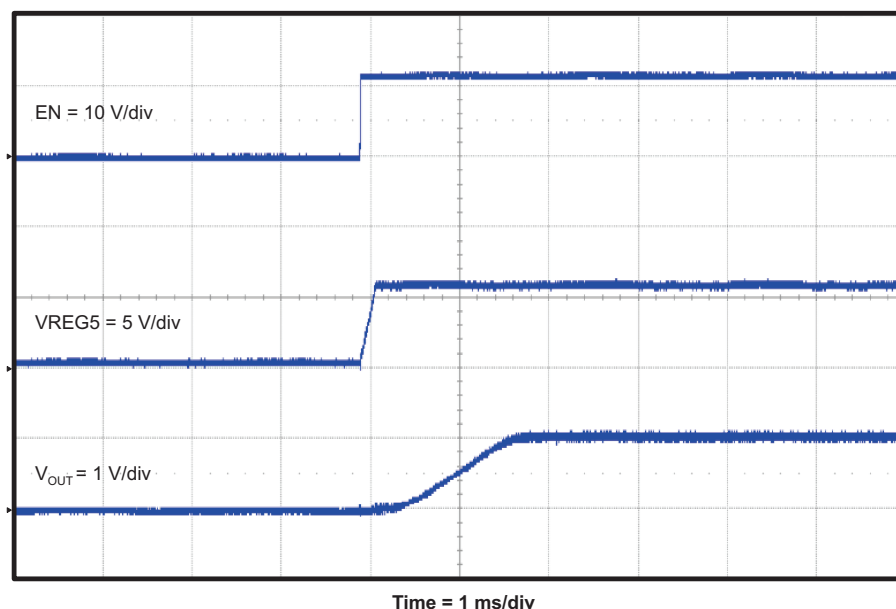

Figure 9. TPS54525EVm-608 Start-Up Relative to EN
The TPS54525EVM-608 start-up waveform relative to enable (EN) is shown in Figure 9.